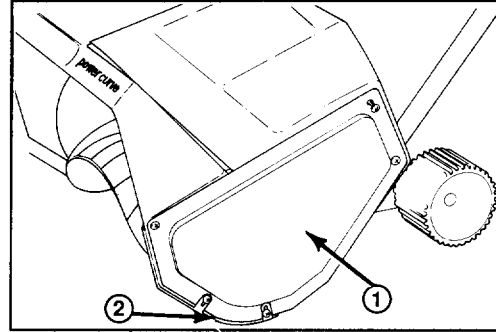

Figure 10
**Note:** If unable to remove rotor shaft by holding rotor, remove left side cover and skid (Fig. 10) and hold hex nut with a 7/8" wrench while unscrewing rotor shaft (Fig. 11).